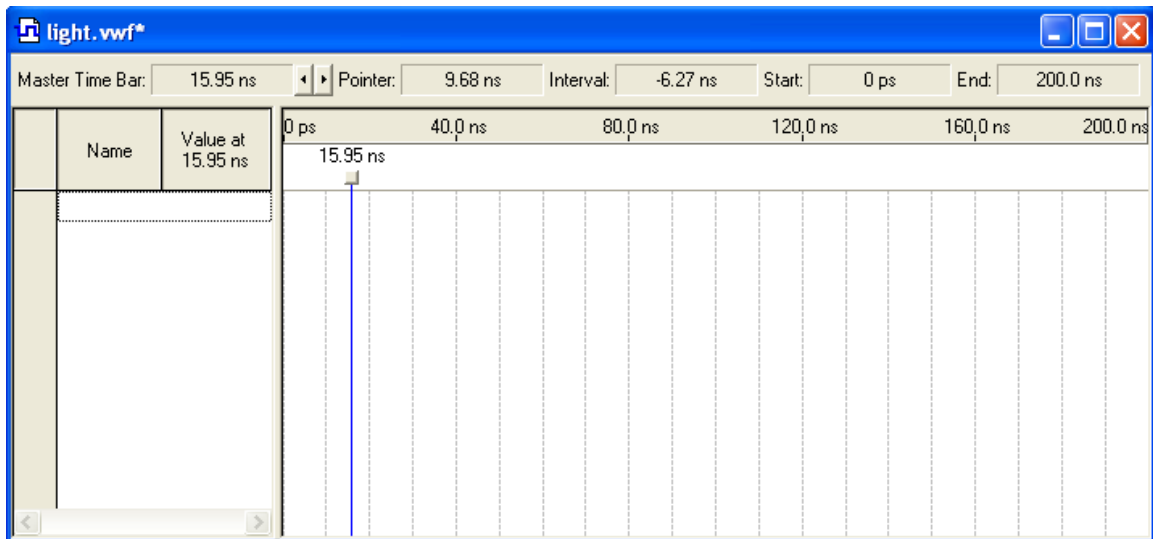

Figure 7. The augmented Waveform Editor window.
5. Selecting **View > Fit in Window** displays the entire simulation range of 0 to 200 ns in the window, as shown in Figure 7. You may wish to resize the window to its maximum size.